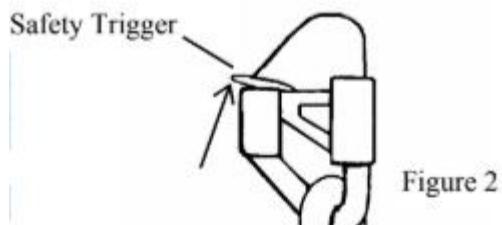

Figure 2
- Push the safety catch upward to open the clamp gate and attach it to the rope (**see Fig. 2**).